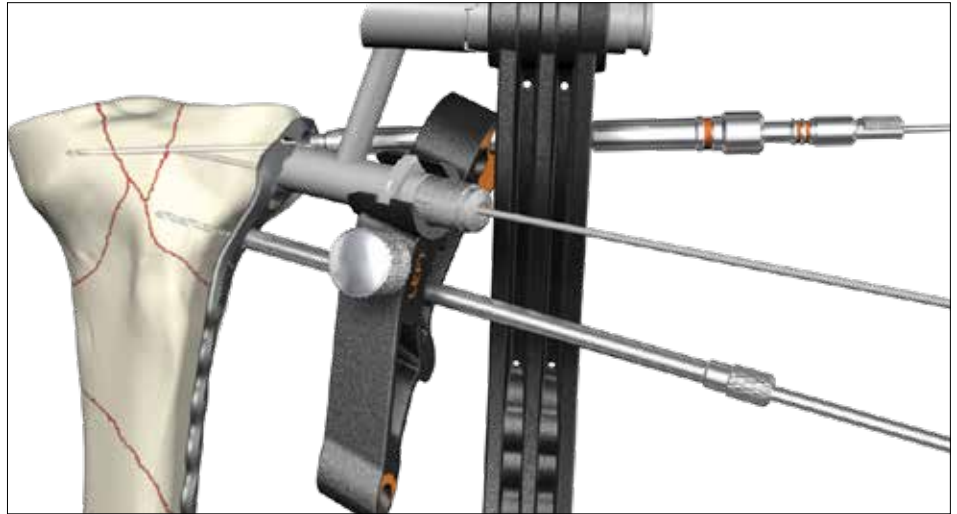

Fig. 12A
Using the calibrated drill Ø2.5mm (ref 703586), drill the core hole to the appropriate depth (fig. 12A). The screw length can directly be read off the calibrated drill.